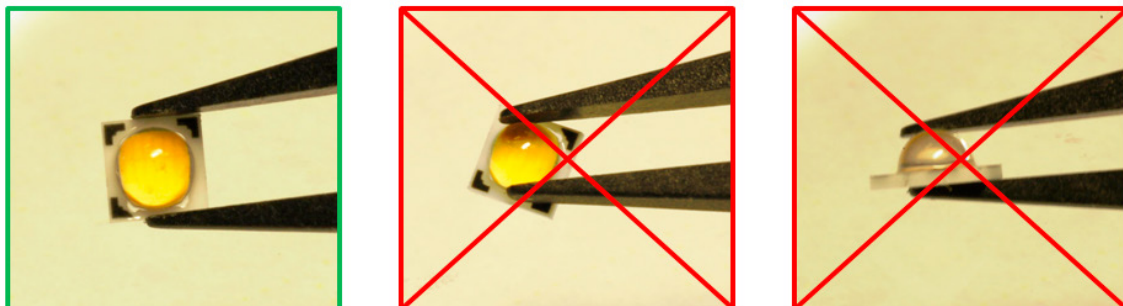

Figure 3. Correct handling (left) and incorrect handling (middle and right) of LUXEON T and LUXEON TX emitters.
The LUXEON emitter is designed to maximize light output and reliability. However, improper handling of the emitter may damage the silicone dome and affect the overall performance and reliability. In order to minimize the risk of damage to the silicone dome during handling, LUXEON emitters should only be picked up from the side of the ceramic frame as shown in Figure 3.
4. Use tweezers to pick up the LUXEON emitter from the outer white ceramic frame (see Figure 3).